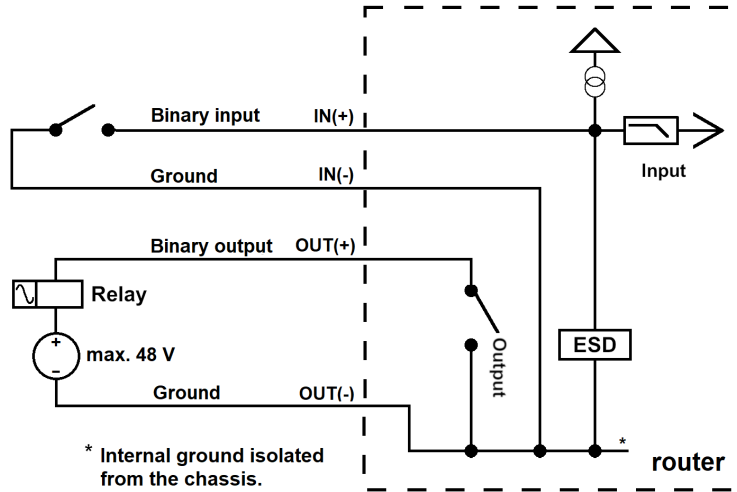

Figure 14: Functional Scheme of the Digital Interface
- i** The thread of the SMA connector for the WiFi antenna is connected to the internal ground, see Figure 14.
The power supply (common pole) is not connected to the metal case of the router nor to the internal ground, see Figure 14.
The I/O user interface is designed for digital input processing and digital output control. For detailed electrical parameters see Chapter 3.6. The functional scheme of connection for the digital input and digital output is in Figure 14.
The serial interfaces are not electrically isolated from the router. The ground is connected to the internal ground, see Figure 14.